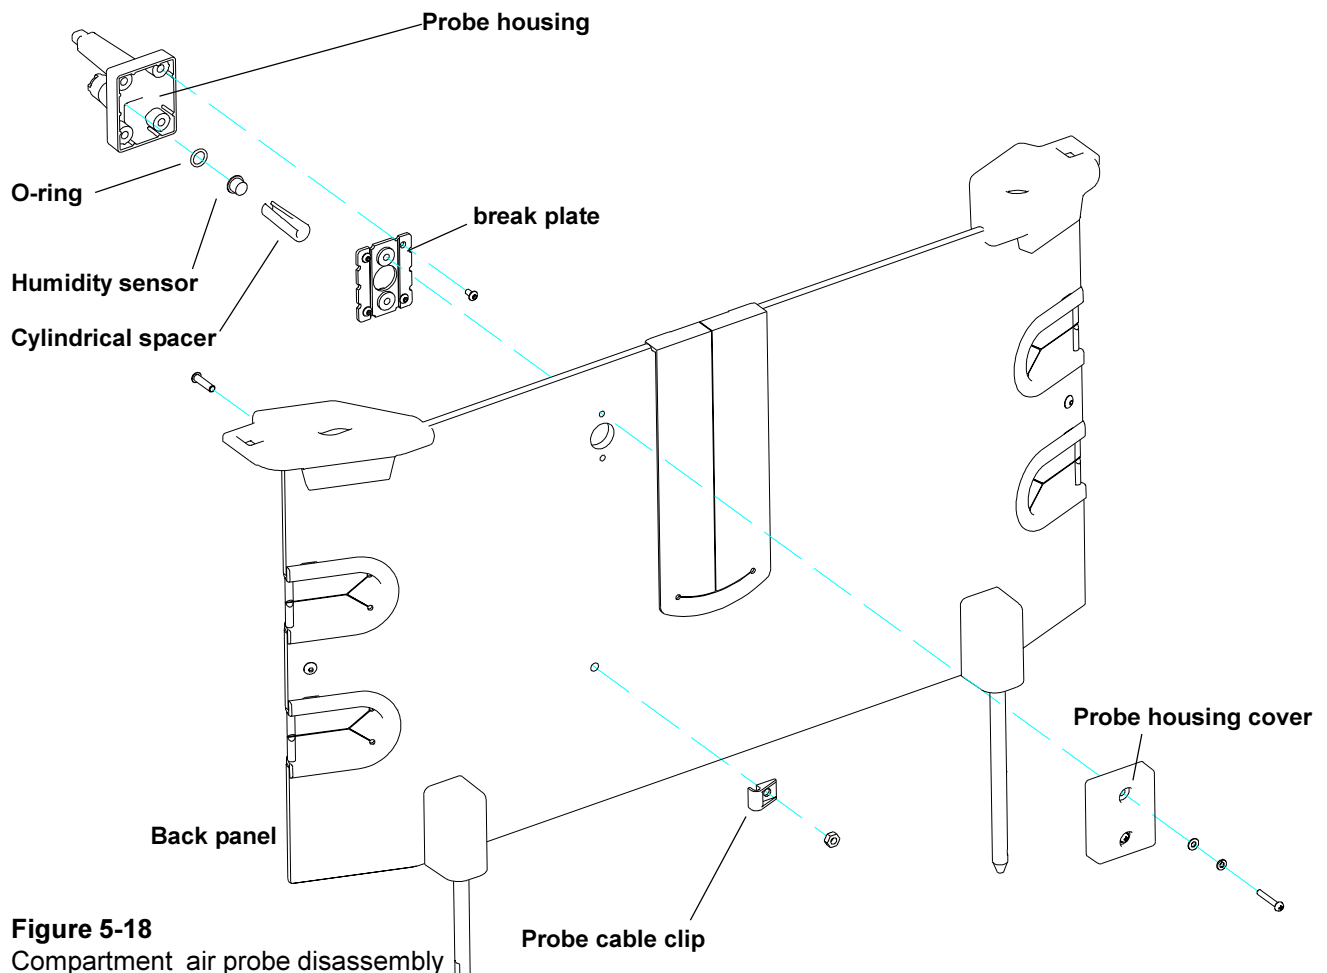

Figure 5-18
5.4 Compartment Air Probe Repairs (Figure 5-18)